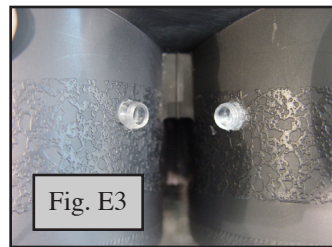

Fig. E3
4. Insert lens from inside of cup holder. (Fig. E3)